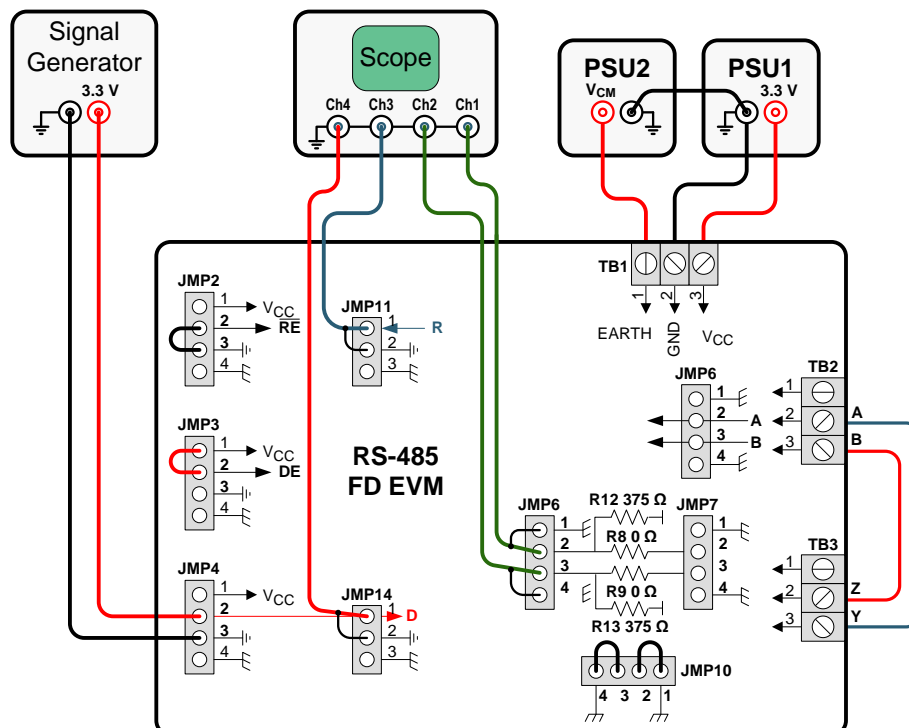

Figure 7. RS-485 Full-Duplex EVM Setup for Maximum Loading
- Replace the previous wire-bridge at TB1 with a second power supply unit (PSU2) and connect the ground terminals of PSU1 and PSU2 with a wire-bridge, as show in Figure 7.
Note that Figure 7 only shows the wiring of PSU2 for positive common-mode voltages. For negative $V_{(CM)}$, connect the ground terminal of PSU2 with pin 1 of TB1 (EARTH), and the $V_{(CM)}$ -output of PSU2 with the ground terminal of PSU1.